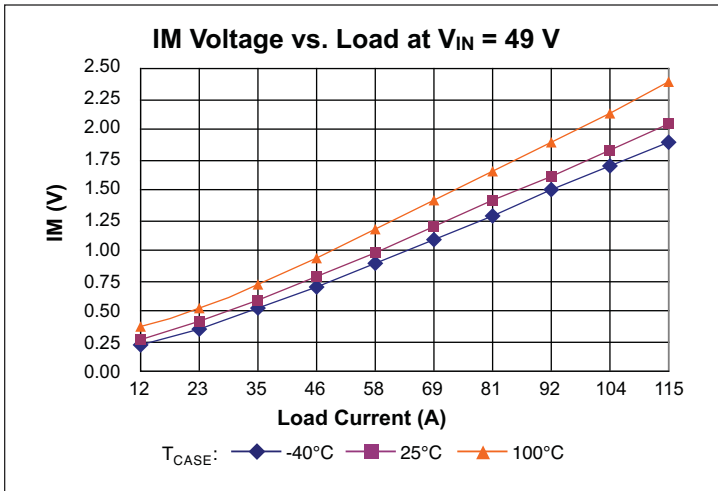

Figure 11 – IM voltage vs. load
Current Monitor (IM) pin provides a voltage proportional to the output current of the VTM. The voltage will vary between 0.25 V and 1.97 V over the output current range of the VTM (See Figures 11–13). The accuracy of the IM pin will be within 25% under all line and temperature conditions between 50% and 100% load. The accuracy of the pin can be improved using a predictive algorithm based on the input voltage and internal temperature.